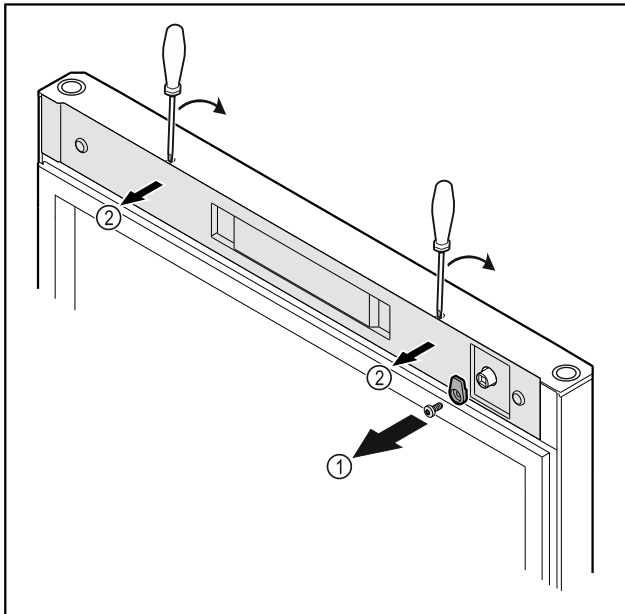

Fig. 9
- ▶ Unscrew the door latch Fig. 9 (1).
- ▶ Unlatch the cover Fig. 9 (2) with a small screwdriver and remove it.